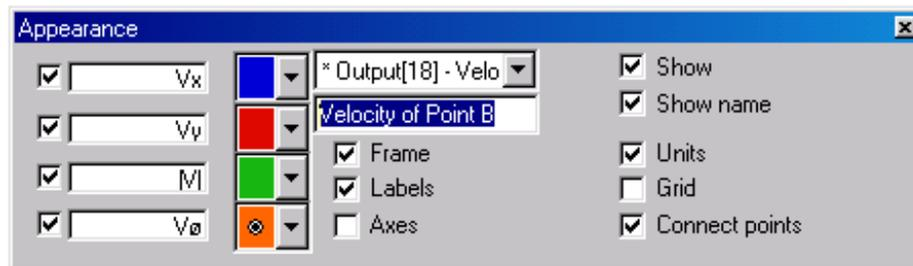

Figure 8
It will be easy to keep track of the relevant graph for each point if you change the title of the graph to resemble that point. To do that, select the graph and go to Window menu and select Appearance. You should get a window similar to Figure 8.
- You will see a title similar to Velocity of Point XX (any numerical number) as in the highlighted text portion in Figure 8. Change it according to the title you wish to display.